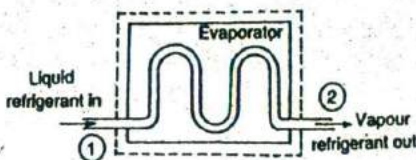

Fig. 3.31. Evaporator.
3. **Evaporator.** The evaporator, as shown in Fig. 3.31 is a device used in refrigeration systems in which the liquid refrigerant passes, receives heat and leaves as vapour refrigerant. For such a system, the change in kinetic and potential energies is negligible. Also there is no work done by the system. In other words,